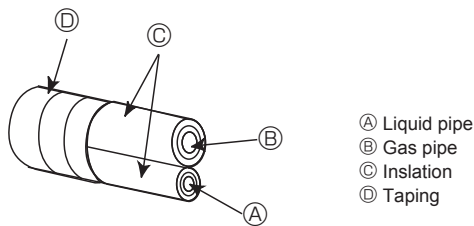
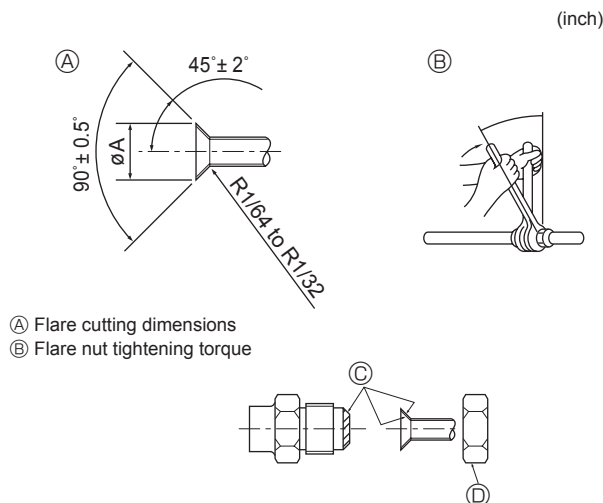

Fig. 4-1
Fig. 4-2
Ⓐ (Fig. 4-1)
Ⓑ (Fig. 4-1)
### 4.2. Connecting pipes (Fig. 4-1) (Fig. 4-2)
When commercially available copper pipes are used, insulate both the liquid and gas pipes separately with commercially available insulation materials (heat-resistant to 100 °C, 212 °F or more, thickness of 12 mm, 1/2 inch or more). (Fig. 4-1)
- The indoor parts of the drain pipe should be wrapped with polyethylene foam insulation materials (specific gravity of 0.03, thickness of 9 mm, 23/64 inch or more). (Fig. 4-2)